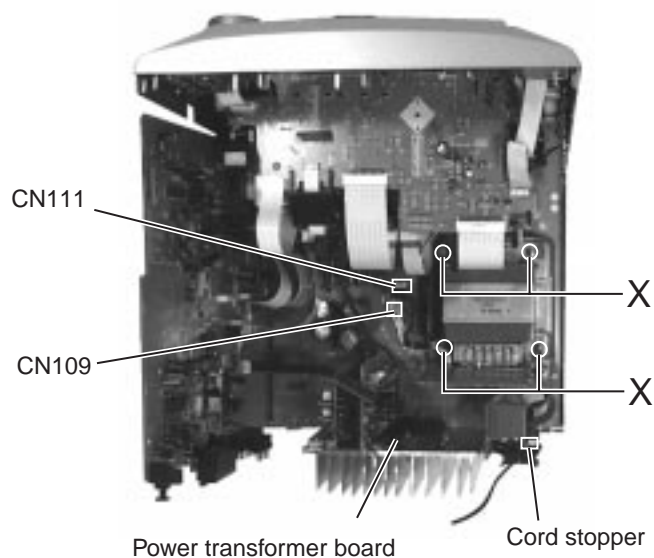

Fig.26
■ Removing the Power Transformer Board (See Fig.26)